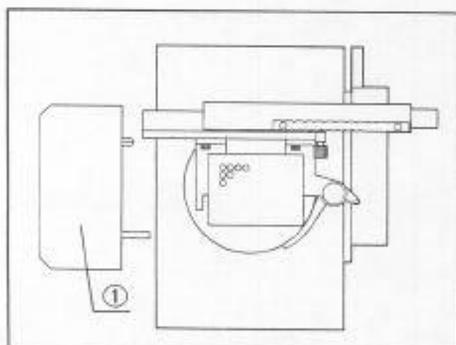

Fig. 8
Align the guide pins of the extension plate ① into the positioning holes in the plain stage, and attach securely. (Fig. 8)